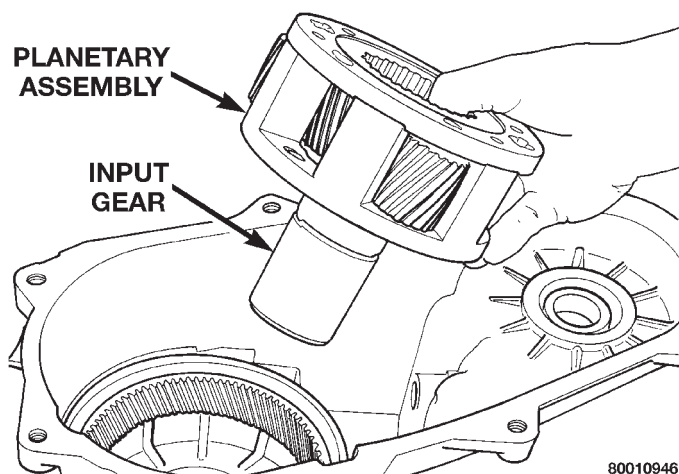

Fig. 34 Input Gear And Planetary Carrier Removal
(5) Place front case in horizontal position. Then remove input gear and low range gear as an assembly (Fig. 34). Tap gear out of bearing with plastic mallet if necessary.